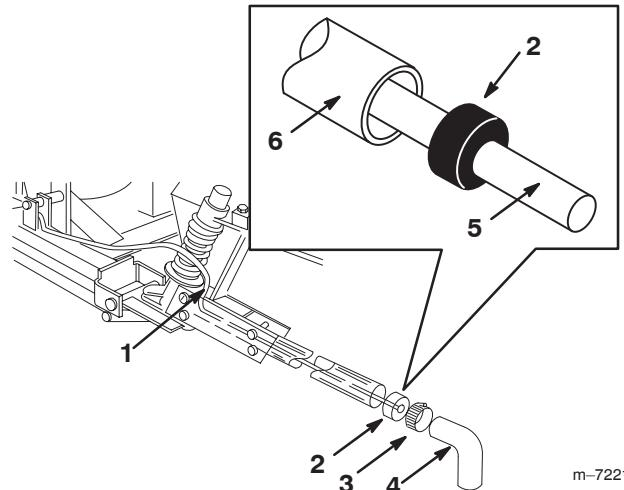

Figure 12
- Insert the boom hose into the hole drilled in the right boom pipe and push it into the boom pipe until **2 to 3 inches** of boom hose **extends beyond** the opposite end of the boom pipe (Fig. 12).
- Push the boom hose through the punched hole boom cap until it **extends 2 to 3 inches past the cap** (Fig. 12).
- Install the boom cap into the end of the boom pipe (Fig. 12).
- Lubricate the inside of the extension hose and slide it over the cap and boom hose and onto the boom pipe (Fig. 12).
- Secure the extension hose onto the boom pipe with a large hose clamp (Fig. 12).